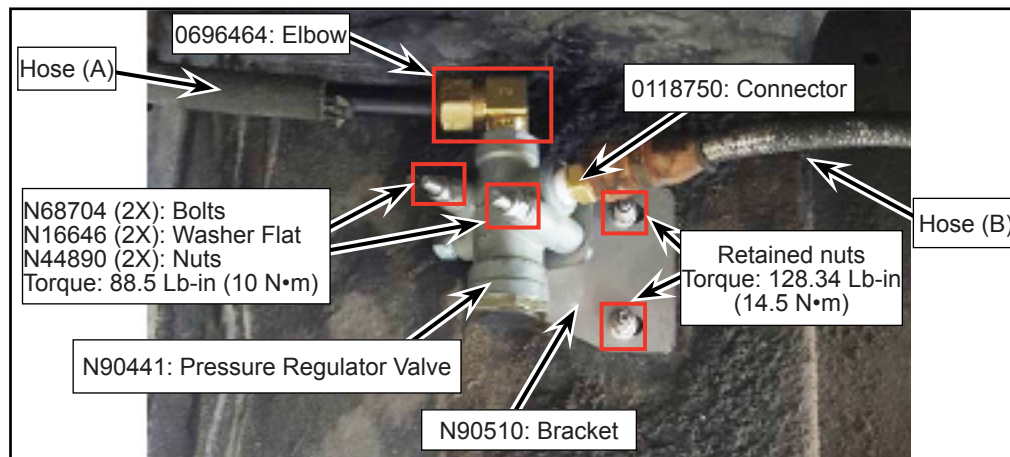

Figure 5 - Installation of Pressure Regulator Assembly
- 1.10. Assemble the pressure regulator valve onto the bracket (N90510) using nuts (N44890 x2), bolts (N68704 x2) and washers (N16646 x2) as shown (see Figure 5).
- 1.11. Install the pressure regulator assembly using the nuts in a location where the bulkhead retarder assembly was previously fitted (see Figure 5).
- 1.12. Remove the existing fitting from the hose (A) and connect free end of the hose (A) to elbow (0696464) as shown (see Figure 5).
- 1.13. Connect the hose (B) to the connector (0118750) as shown (see Figure 5).